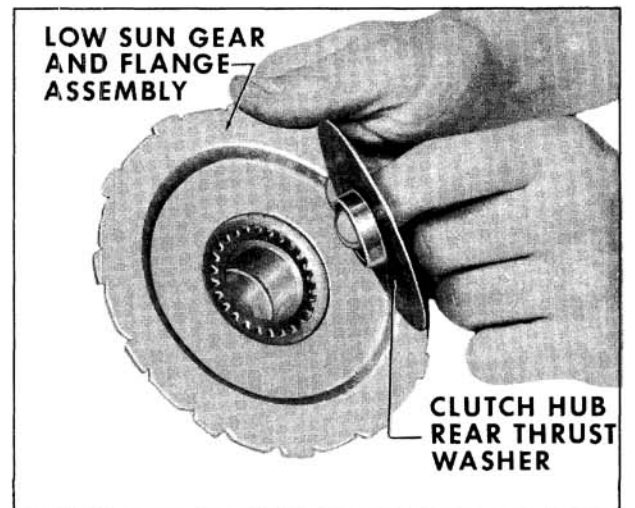

Fig. 6-450 Installing Thrust Washer
10. Install clutch hub rear thrust washer with its flange toward low sun gear and flange assembly. (Fig. 6-450)